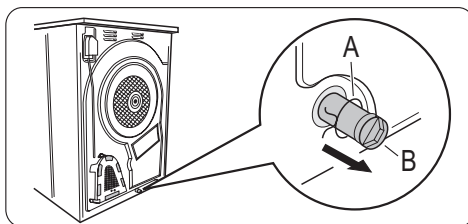

fig. 1
3. Drain off any condensation water through the hose found on the lower part of the machines back (fig. 1). Place a mop on the floor and remove first the clamp (A) using a pair of pliers, then the cap (B). Tilt the machine slightly on one side. When all the water has drained off, put the cap back onto the hose and re-fasten the clamp.